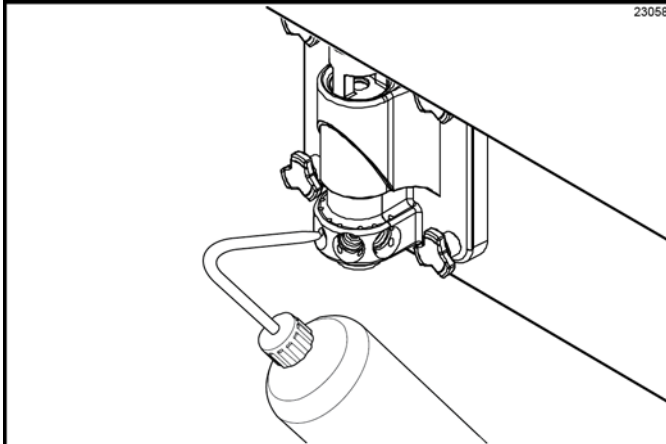

Figure 6-76
5. Fill the squeeze bottle with sanitizing solution. With a pail beneath the door, insert the tube end of the squeeze bottle into the syrup port, and squeeze the bottle firmly. This action will force solution out of the adjacent port and down around the spinner. This procedure should be performed for at least 10 seconds per port. (See Figure 6-76.)